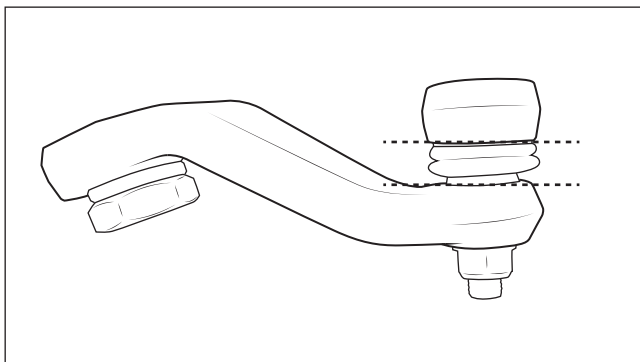
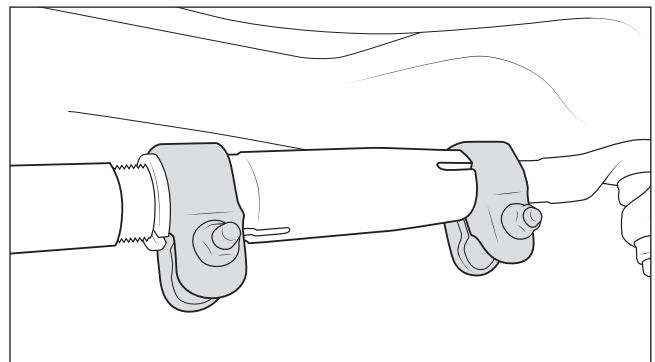

Figure 40
Figure 41
- D. Re-check length measurement and adjust as needed. **Make sure tie rod end at pitman arm is clocked parallel to pitman arm surface. Not doing so will cause bind and potential damage during steering and suspension movement** (fig. 40). Tighten both adjuster clamps to **40 ft-lbs** (fig. 41).